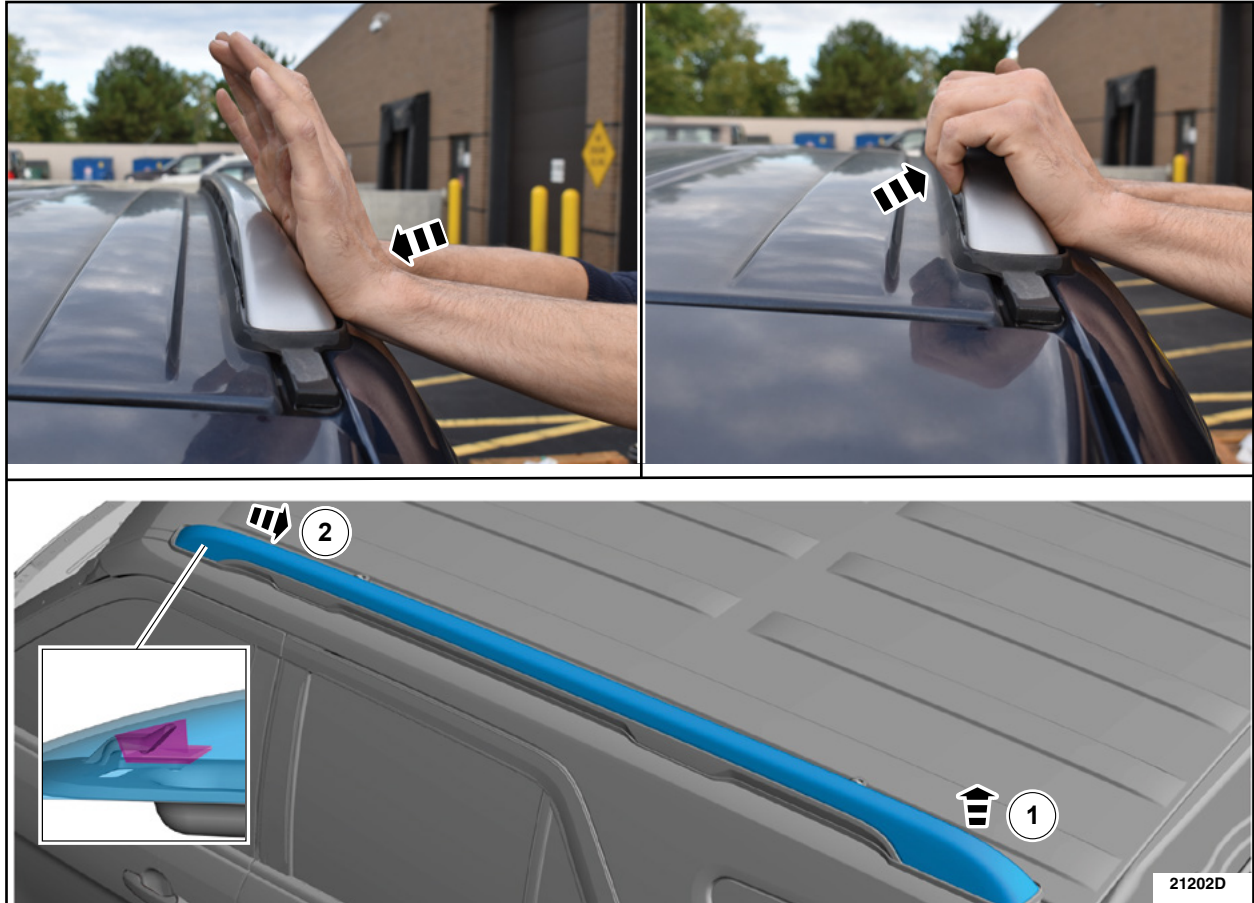

FIGURE 5
a. Remove the affected roof rail cover(s). See Figure 5.
2. Reinstall the roof rail cover by reversing the removal procedure. See Figure 5 on Page 5.